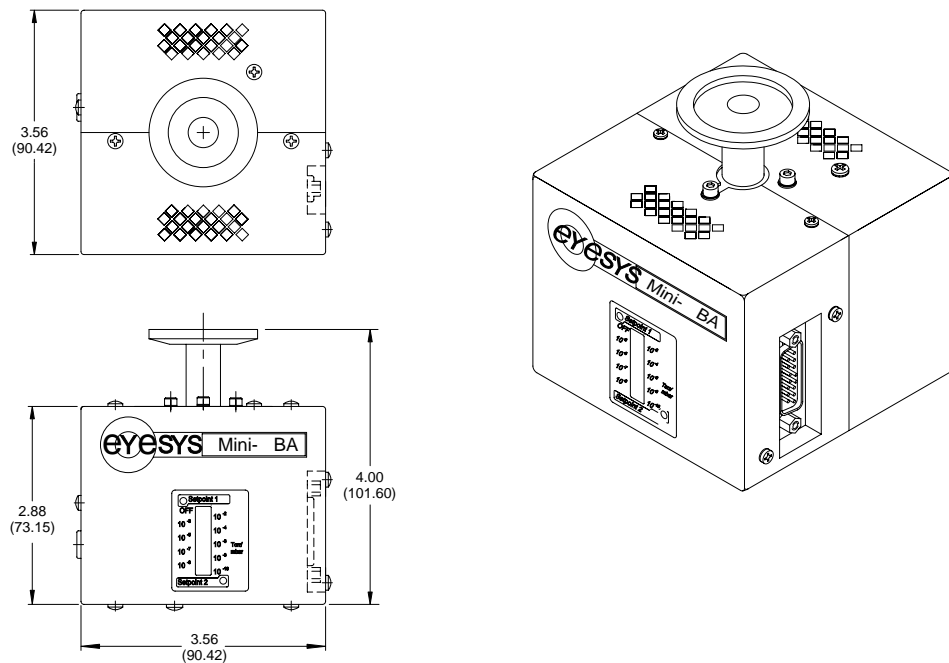

Figure 4 Dimensional Diagram
6. Re-install 3x (allen) socket head cap screws and lockwashers, as shown in Figure 4. Align and tighten tube assembly to bottom case half.